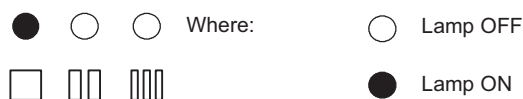

Figure 9.11
- The lamps 11 should give the indication as in Figure 9.11 (reignition frequency). If not, press the reset button repeatedly to obtain it.